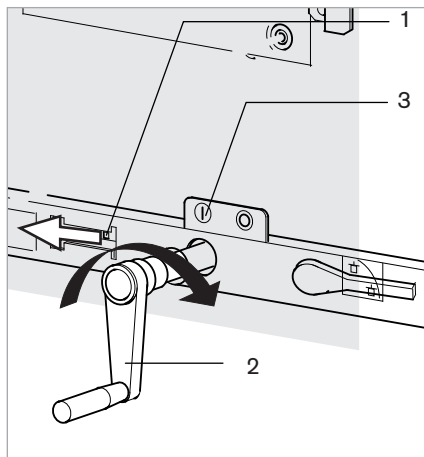

Fig. 37
1. Press the interlocking slide (Fig. 37, item 1) to the left and hold it. Insert crank through the opening in the door onto the drive shaft of the truck (2).
2. Turn crank clockwise until the position indicator above the crank indicates "I" (Fig. 37, item 3). Remove crank.